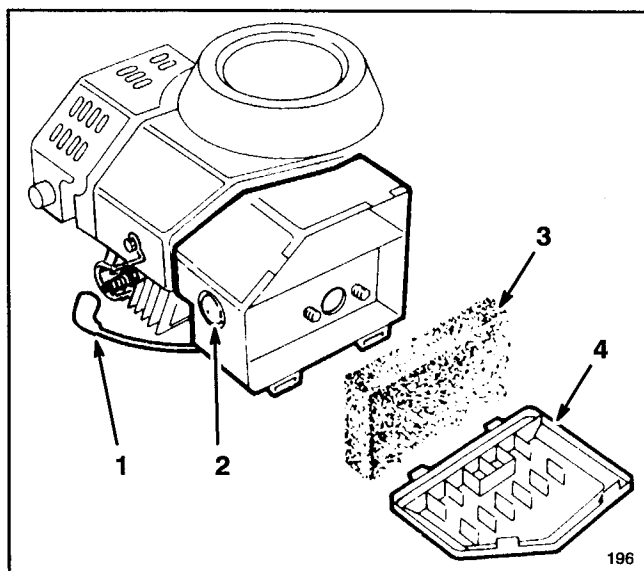

Figure 18
1. Stop engine and pull wire off spark plug (Fig. 18).
1. Stop engine and wait for all moving parts to stop. Pull wire off spark plug (Fig. 18).